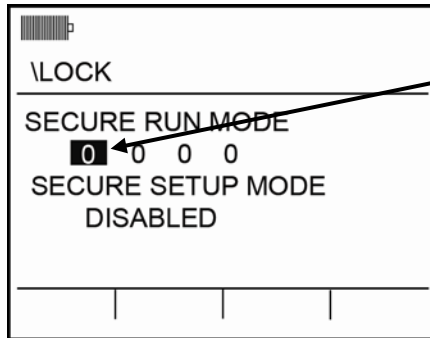

Figure 4-10: Adding code for secure/lock screen
When you enable **Run Mode Security** and start a run, the Secure Run Mode screen appears (Figure 4-10). This will prevent users from viewing the measurements, changing parameters, and/or stopping the run. To stop the secured run, you will have to press the Lock softkey and enter in the code. Then, you would be able to stop the run by pressing the Stop key.
4. To set **Secure Setup Mode**, ensure it is highlighted by pressing **Down** arrow. Once selected, press **Enter** and “0000” will appear. (See Figure 4-10 for a screen example.) (Also, you must be in stop mode.)
2. Press the **Lock** softkey and the code will appear (see Figure 4-10 for example).